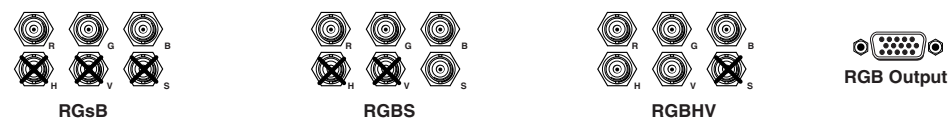

Figure 5 — Output connections
- Use BNC connectors or a 15-pin HD connector to connect the scaler to the output device. Figure 5 shows each of the connection options.